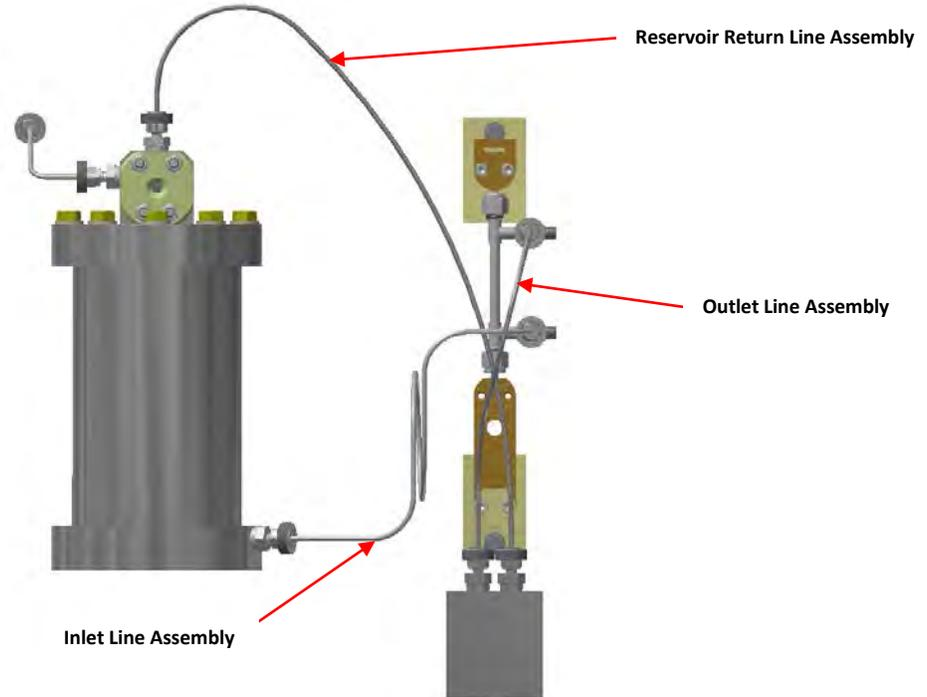
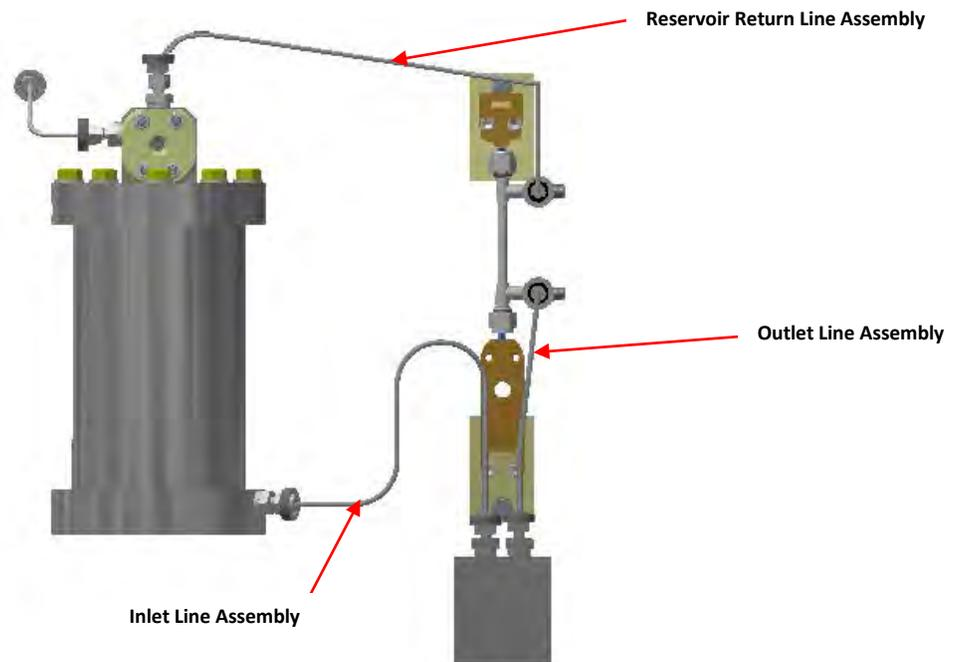

Figure F5 – Pull configuration
Figure F6 – Push configuration
2. Connect all tubing lines to their respective locations. Refer to figure F5 for 'Pull' configuration and figure F6 for 'Push' configuration.
Note: *Reservoir assembly and inlet tubing lines shown in figures F5 and F6 depict the bolted flange reservoir configurations. For split ring clamping collar reservoir configurations, the reservoir is different and the inlet line is different.*